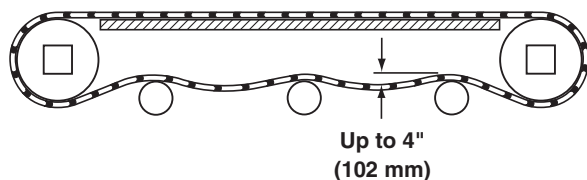

Figure 50
4. Check belt sag by measuring from the top of the return (**Figure 50**). Belt sag should not exceed 4" (102 mm). Follow steps 7 – 9 in the "Belt Installation" section on page 15 to remove slack from the belt.